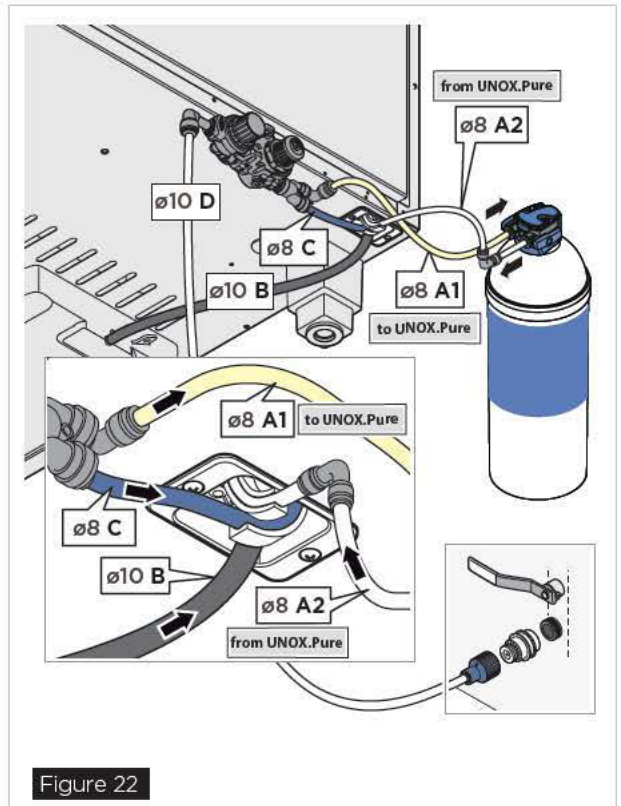

Figure 22
- **UNOX.Pure** (a filtering system, see Figure 22).